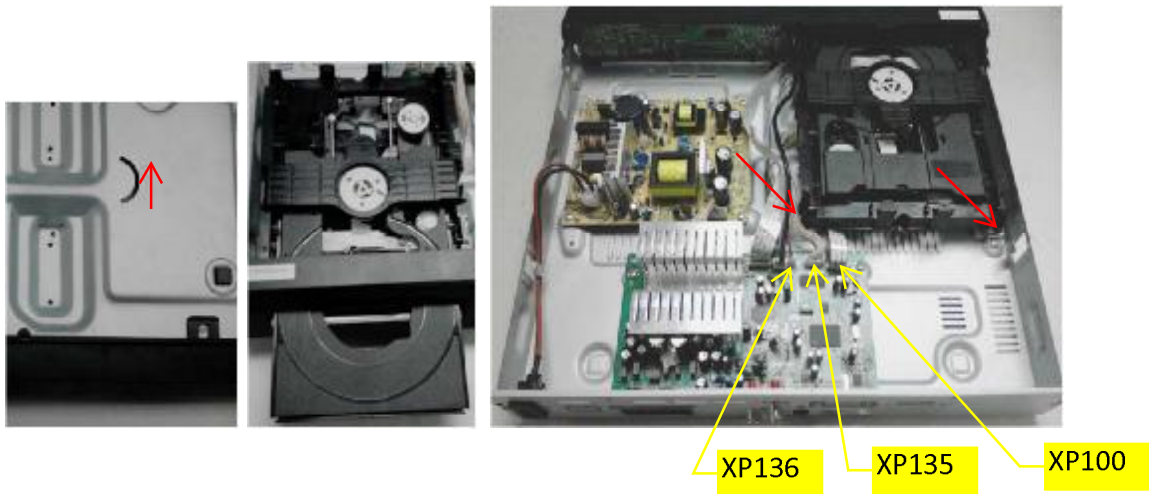

Figure 2
Step2: Dismantle the loader. Open the tray, dismantle the CD door, remove 2 screws beside the loader. disconnect connectors(XP100,XP135,XP136), then pull up the loader.(Figure 2)